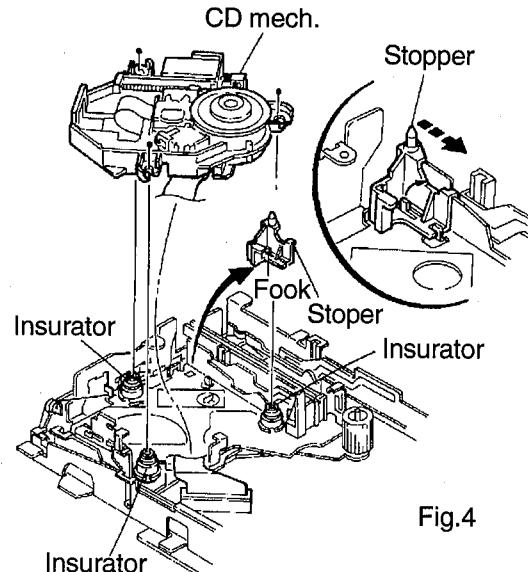

Fig.4
7. Move the center pawl in the arrow D direction and remove the stopper fixing the CD mechanism as shown in Fig.4.
8. Remove and take out the three insulators from the CD mechanism by using tweezers and so forth (See Fig.4).